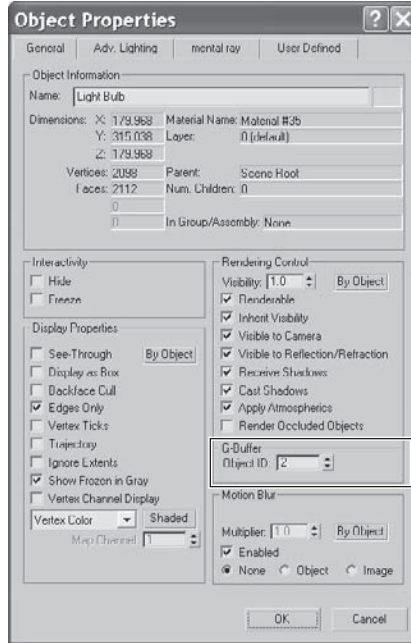

Figure 11.30
3. In the dialog box, go to the G-Buffer section and assign 2 as the Object ID number for the glow effect, as shown in Figure 11.30. This tells 3ds Max which object gets the glow. The number you assign doesn't matter unless you want different glows on different objects. In that case, each glow object would receive its own Object ID number.